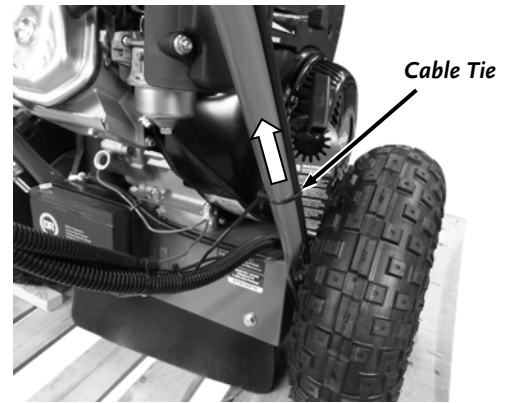

Figure 19
28. If there is a Cable Tie securing the Throttle Cable at the end of the Handlebars, move it further up on the handlebar (**Figure 19**). This cable Tie can also be cut if it is too tight to move easily.